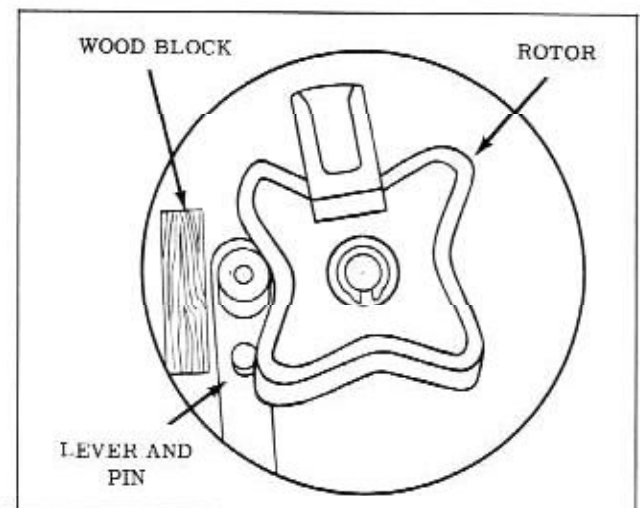

Fig. 13-122 Removing Bellows
3. Place an obstruction (small block of wood) between cam lever arm and housing. (Fig. 13-122)